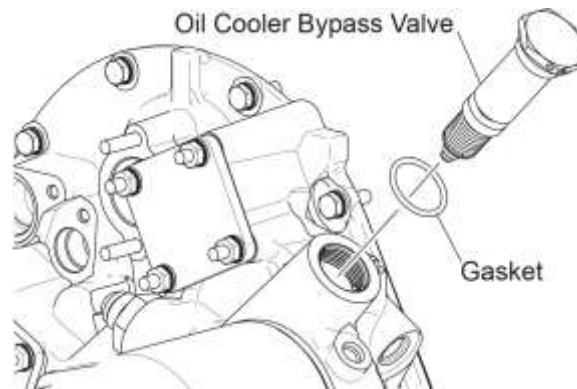

Figure 7
- B. Remove the oil cooler bypass valve (Figure 7) from the oil accessory housing. Discard the gasket.
- B. Install the oil cooler bypass valve with a new gasket in the accessory housing as shown in Figure 7.